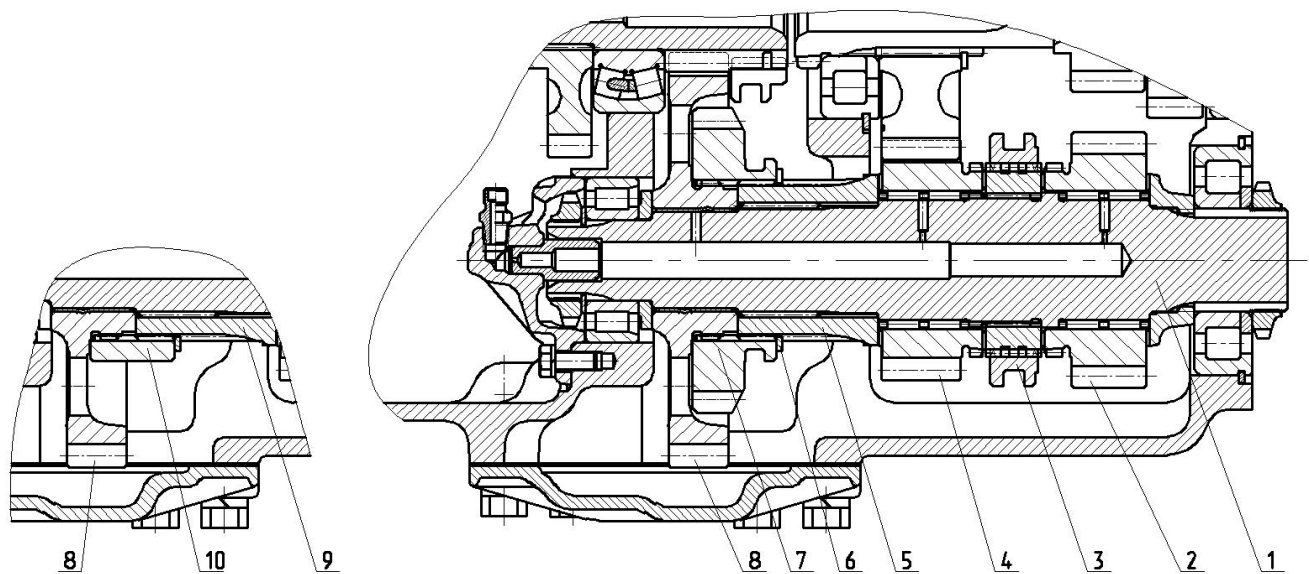
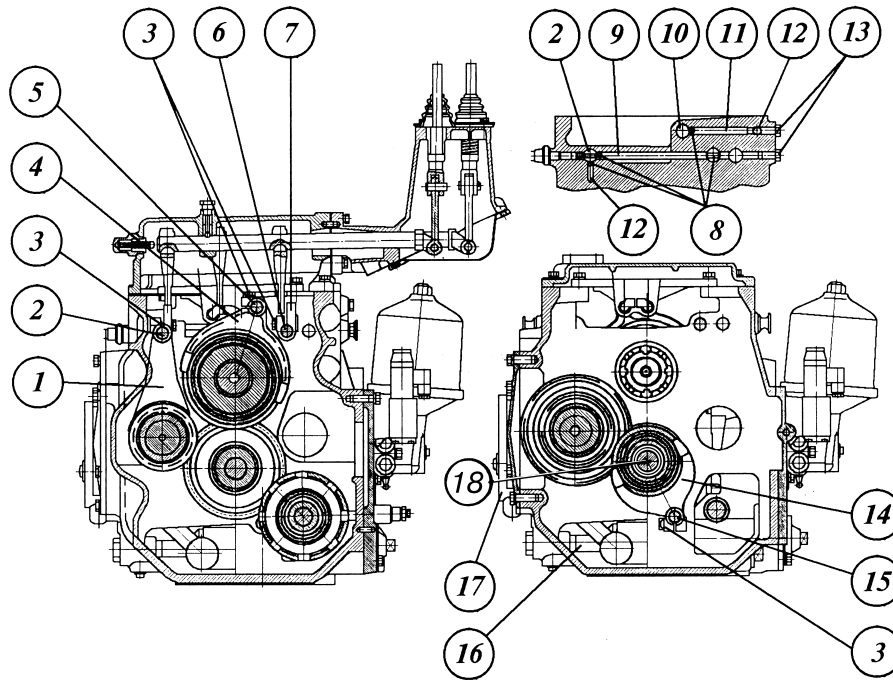

Fig. E-12.2. Shaft of downshift gears:
Fig. E-14. Gearbox:
The gear (4) of the 1st and 2nd ranges and the gear (2) of the reverse are fitted on the shaft of downshift gears and reverse (1) (Fig. E-12.2). The gear (8) is mounted on the shaft by means of a bronze bushing. Depending on the standard equipment of the gearbox, the design of the shaft of downshift gears differs as follows:
- 1) if the gearbox provides for the possibility of installation of the speed-reduction gear, the splined bushing (5) is fitted with the speed-reduction gear wheel (7) connected with the splines of the gear (8) and fixed by means of the retaining ring (6) on the bushing (5);
- 2) if the gearbox does not provide for the possibility of installation of the speed-reduction gear, the splined bushing (9) is fitted with the bushing (10) connected with the gear (8) through the splines and fixed by means of the retaining ring (6) on the bushing (9).
The toothed couplings (13, 26) (Fig. E-12.1) and (3) (Fig. E-12.2) are moved by forks (1, 4, 14) (Fig. E-14) attached on the dogs (2, 5, 15), respectively. The toothed couplings (13, 26) (Fig. E-12.1) and (3) (Fig. E-12.2) are fixed in neutral and engaged positions by the parts (8, 11, 12) (Fig. E-14).
To exclude simultaneous engagement of the two toothed couplings (26) (Fig. E-12.1) and (3) (Fig. E-12.2) the locking
balls (8) (Fig. E-14) are installed in holes in the GB casing (Fig. E-14).